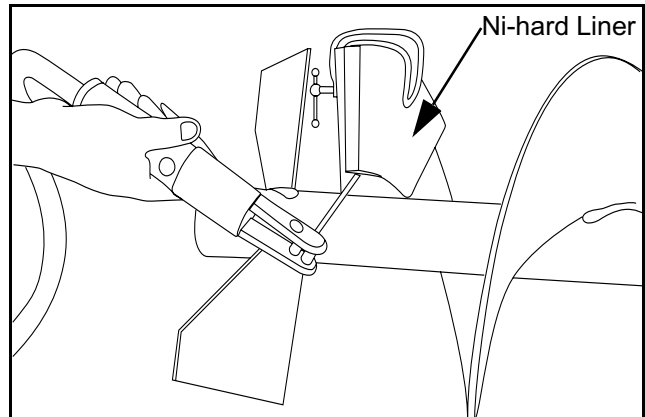

Figure 6 - 24 Installing liners
- 3) Use several C-clamps and attach the pieces of liner to the auger face starting at the drive chain end as shown (Figure 6 - 24). By starting at this end, the main wear surface of the section will be covered and any small area not covered will be at the discharge end. Adjust liner pieces to extend 1/8" above the edges of the auger flight as shown (Figure 6 - 25). Be sure the first piece applied is accurately aligned so the remaining liners will fit properly along the flight.